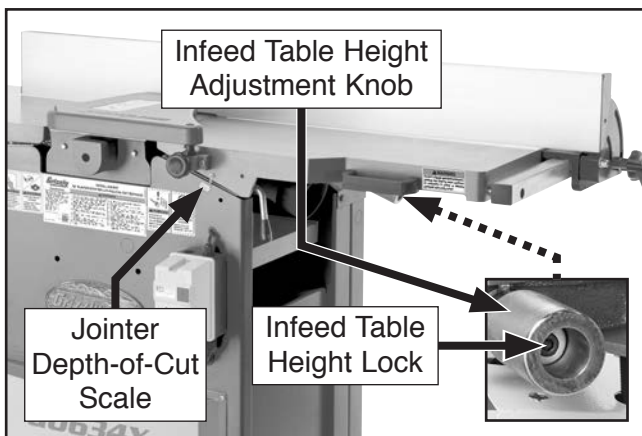

Figure 27. Location of jointer depth-of-cut scale and infeed table height adjustment controls.
The jointer depth-of-cut scale (see **Figure 27**) goes up to $\frac{3}{16}$ " , however the recommended depth of cut per pass is $\frac{1}{16}$ "– $\frac{1}{8}$ " depending on the operation.
1. Loosen infeed table height lock, rotate infeed table height adjustment knob, then tighten table height lock to secure (see **Figure 27**).